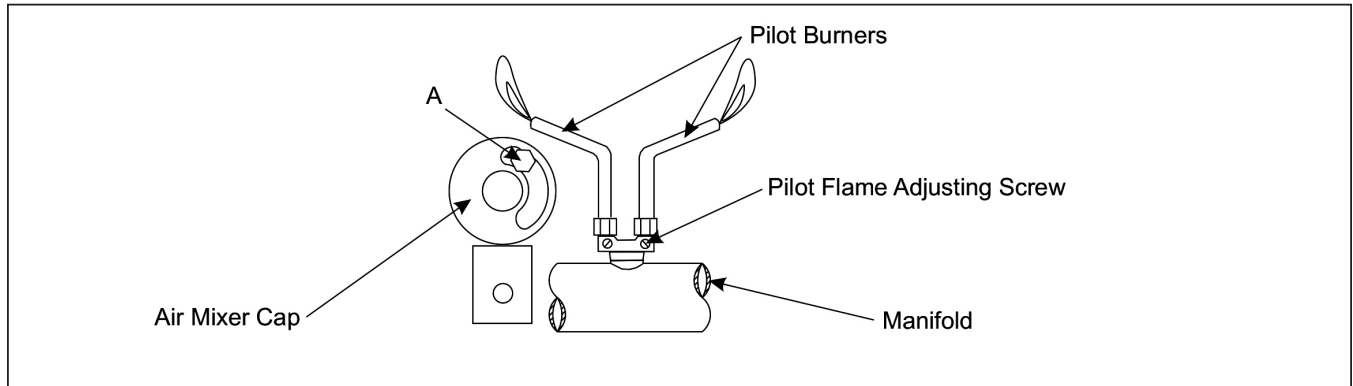

Figure 2: Air Mixer Cap And Pilot Burners
- If the flame appears yellow, loosen the air-mixer cap hold down screw "A" (see figs. 2 and 3). Rotate the air mixer cap counter-clockwise to allow more air into the burner, until the flame turns blue. Tighten the screw.
The pilot flame can be adjusted by turning the appropriate adjusting screw using a screwdriver or a 3/16 wrench (see fig. 2), counter-clockwise to increase, clockwise to decrease and close. The pilot flame should be about 1/2 inch long.
- (b) Check to see if the pilot flame is lit. Each burner has its own pilot, which is located on the manifold along the front of the charbroiler (see Fig. 2).